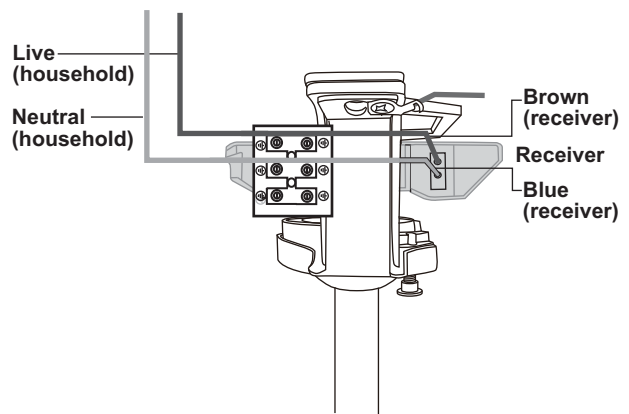

Figure 9
4. Connect the blue, receiver neutral wire to the household neutral wire. Connect the brown, receiver Live wire to the household Live wire (Fig. 9 & 11). Make sure there are no loose strands or connections.